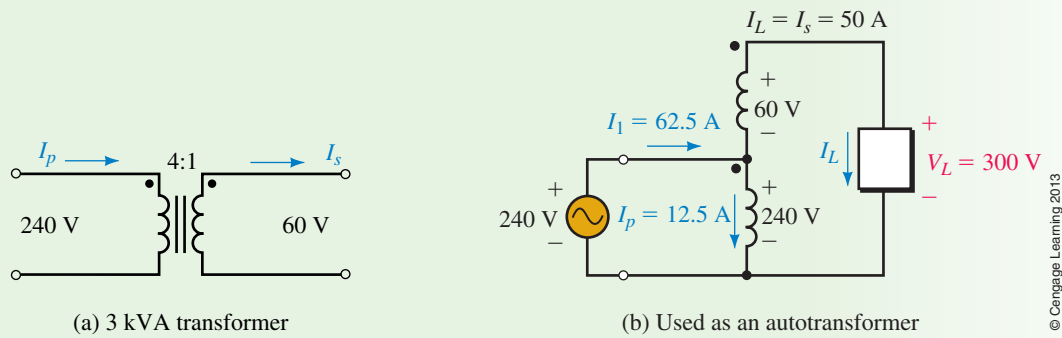

FIGURE 23-33
For analysis, an autotransformer may be viewed as a standard two-winding transformer reconnected as in Figure 23-33(b). Voltage and current relationships between windings hold as they do for the standard connection. Thus, if you apply rated voltage to the primary winding, you will obtain rated voltage across the secondary winding. Finally, since we are assuming an ideal transformer, apparent power out equals apparent power in.
A 240/60-V, 3-kVA transformer [Figure 23-33(a)] is reconnected as an autotransformer to supply 300 volts to a load from a 240-V supply [Figure 23-33(b)].
- b. Since the 60-V winding is rated at 50 A, the transformer can deliver 50 A to the load [Figure 23-33(b)]. The load voltage is 300 V. Thus,